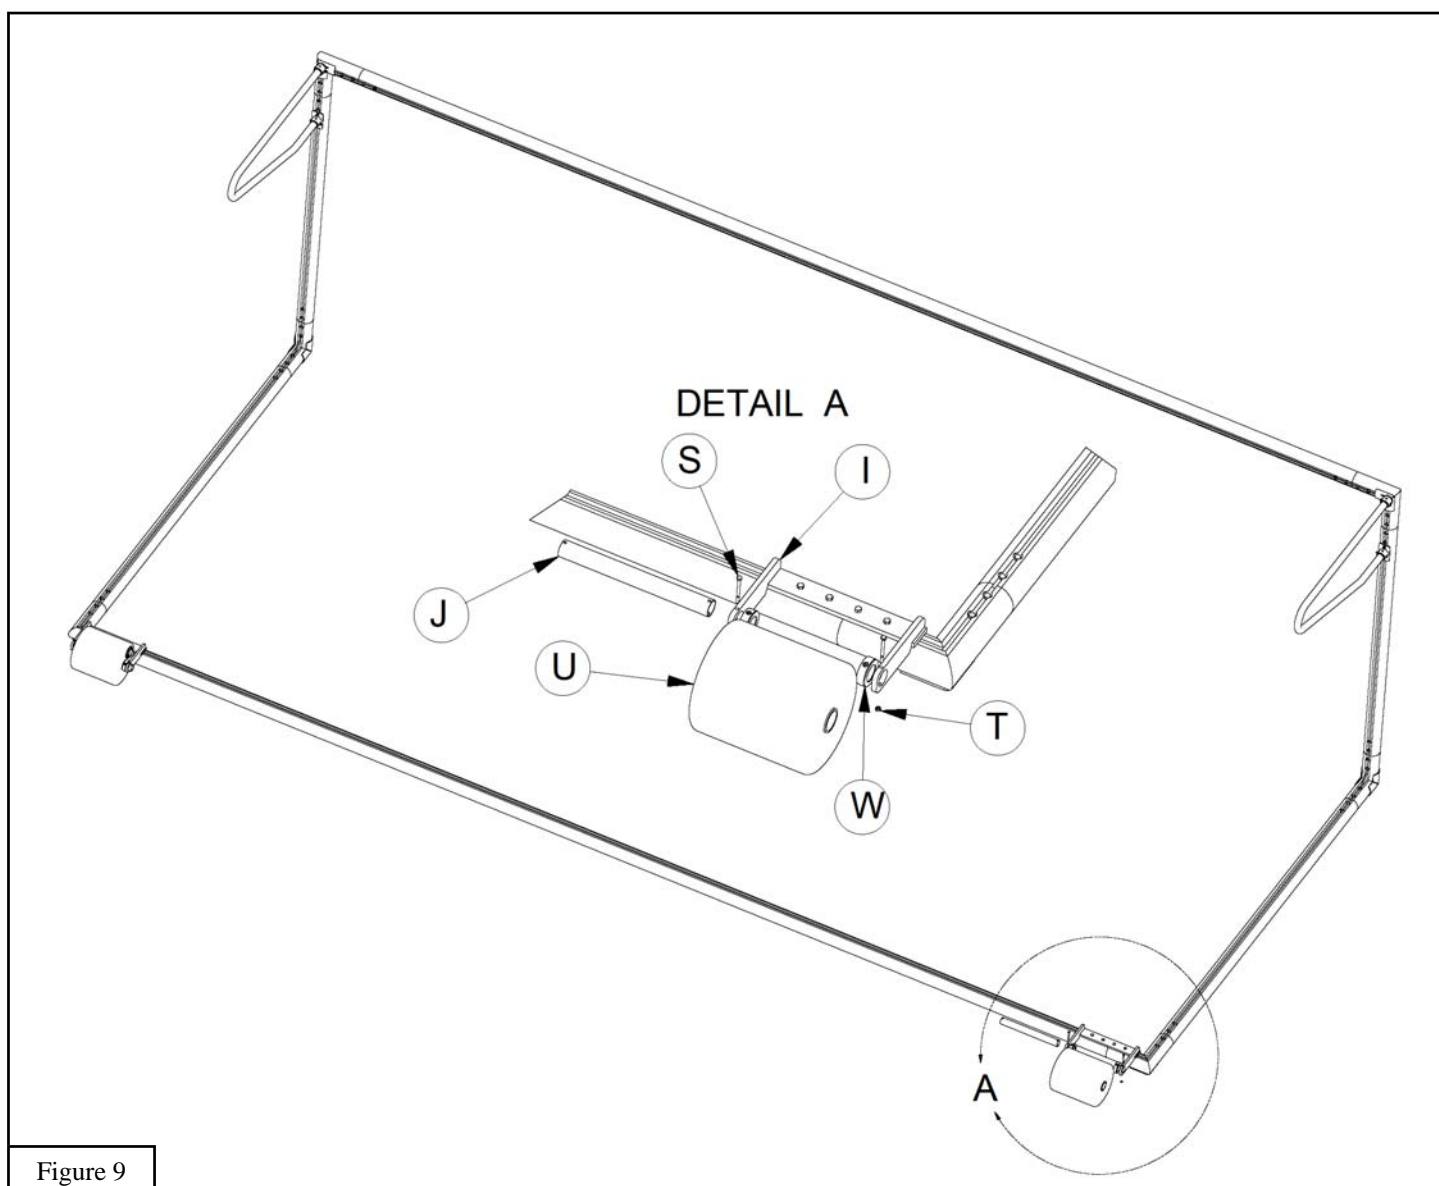

Figure 9
13. Slide *Ballast Axle* (J) through *Ballast Bracket* (I), one *Locking Collar* (W), *Ballast Drum* (U) and a second *Locking Collar* (W). Make sure there is a *Locking Collar* (W) on each side of *Ballast Drum* (U). Tighten *Locking Collars* (W) onto *Ballast Axle* (J). Use  $1/4"$  X 3" *Hex Bolts* (S) and  $1/4"$  *Lock Nuts* (T) to secure *Ballast Axle* (J) to *Ballast Bracket* (I). See Figure 9.
15. Equally space *Net Attachment Clips* (X) on entire goal. Use *Hook and Loop Fastening Strap* (Y) to secure net as needed.